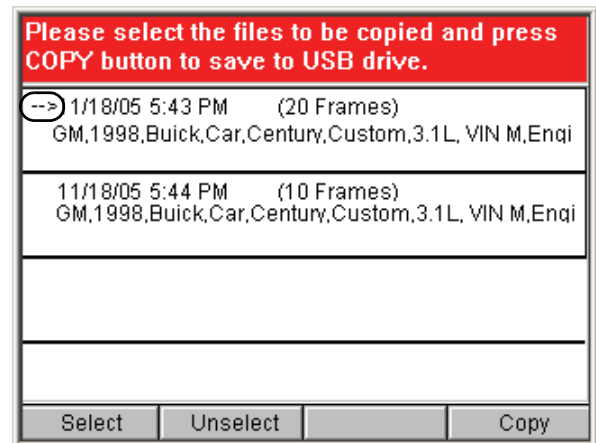

Figure 16.6: Copy Files Screen
- 7 For each file to copy, **select the file** and then press the **Select** function key. This places a small arrow to the left side of the file name, as shown for the top line in Figure 16.6.